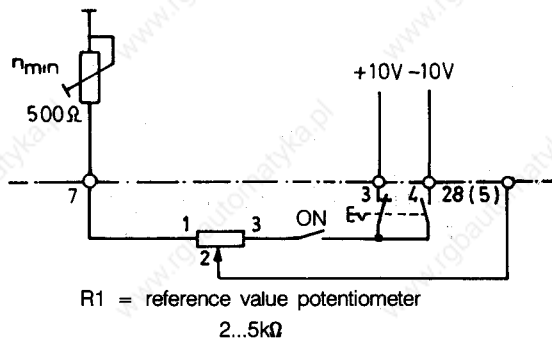

Fig. 5.4.3.1
- Connect circuit as in Fig. 5.4.3.1.